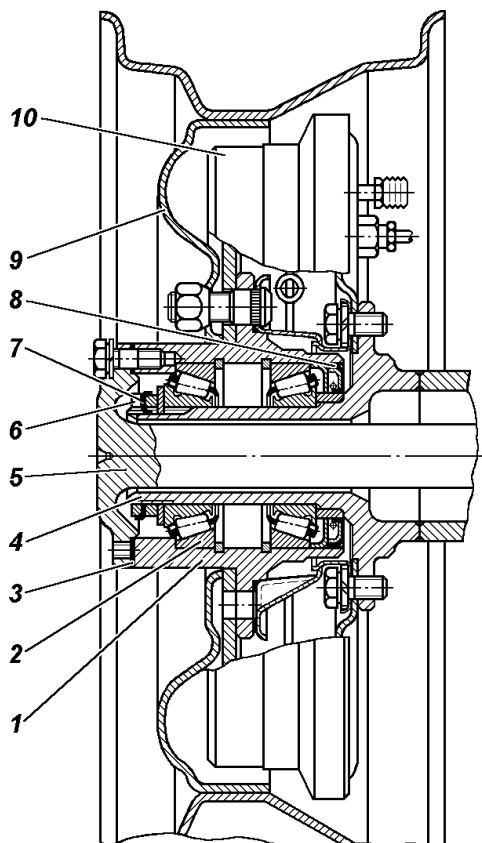

Fig. 60. Rear Wheel Hub:
2. Take out the rear axle axle shaft 5 (Fig. 60) (remove the axle driving flange with hub drive) or remove the hub driving flange and the front axle wheel disengaging coupling.